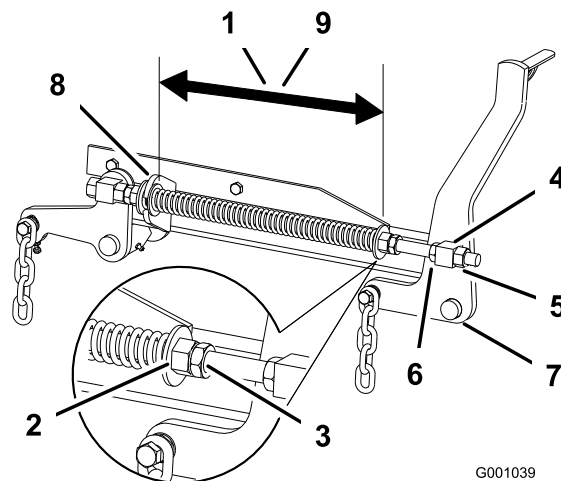

Figure 76
2. Check the distance between the two large washers, it needs to be 11-1/8 inches (28.2 cm) for 52 inch mower decks and 10-1/2 inches (26.7 cm) for 60 inch mower decks (Figure 76).
(Figure 76). Turning the nut clockwise will shorten the spring; counter-clockwise will lengthen the spring.
4. Lock the nut into position by tightening the spring jam nut (Figure 76).